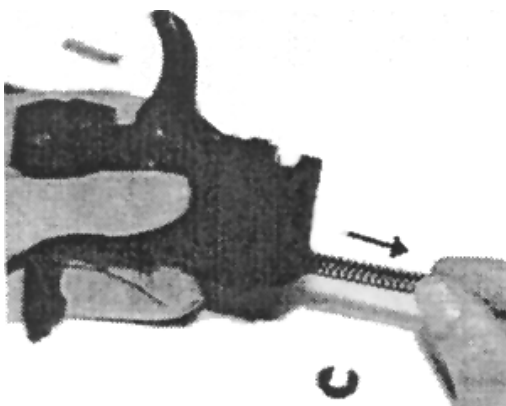

Figure 5
- Remove *hammer spring* from the rear of the housing (Fig. 5)